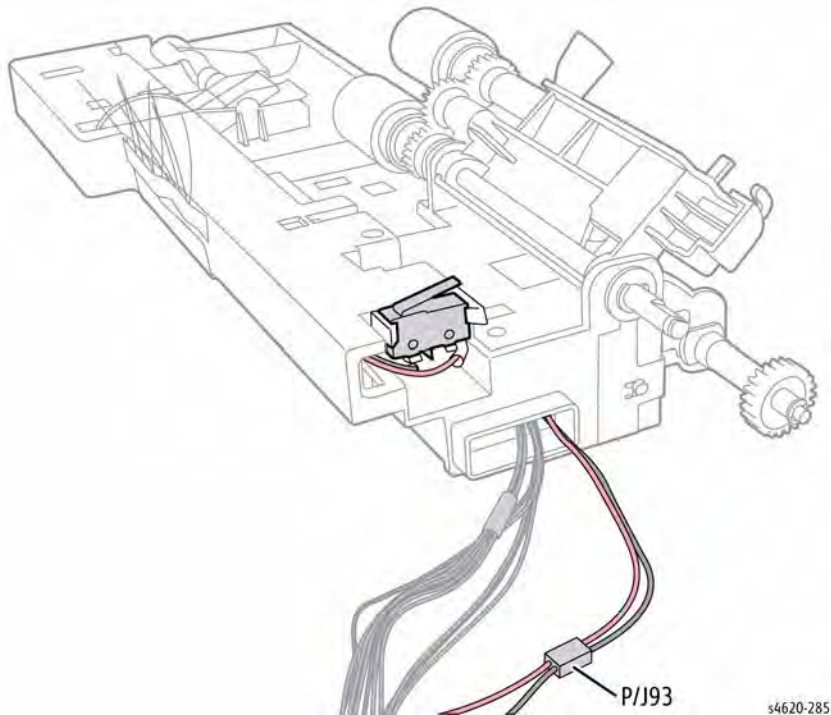

Figure 1 Remove the Lift Limit Switch
7. Disconnect P/J93 and release 2 hooks that secure the switch to the HCF Feed Assembly, Figure 1.